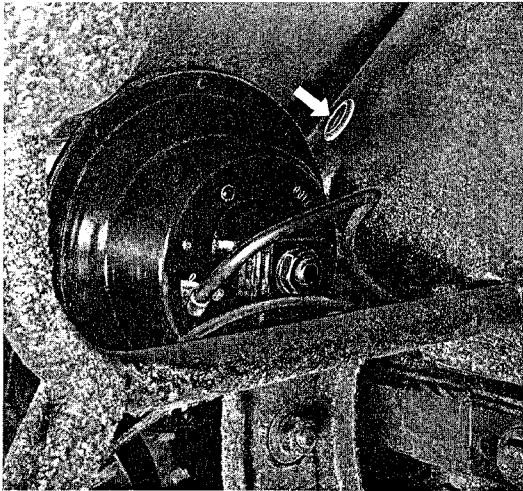

Fig. 12
The emergency access to the hood lock is located under the left front fender above the horn as shown in Fig. 12.
3. Remove rubber cap (at arrow Fig. 12).